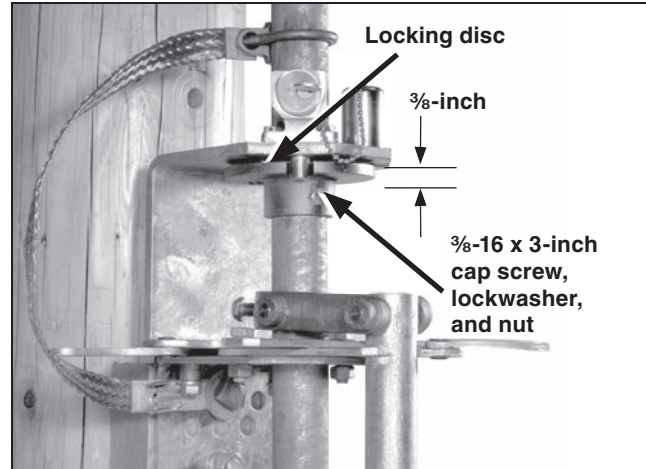

Figure 26. Interphase pipe connecting the switch poles and outboard bearing.
STEP 23. Hold the locking disc $\frac{3}{8}$ -inch (10 mm) below the interlock bracket and drill $\frac{7}{16}$ -inch diameter holes through the vertical operating-pipe section using the holes in the locking disc collar as pilots. Attach the locking disc to the pipe using the $\frac{3}{8}$ -16 x 3-inch cap screw, lockwasher, and nut furnished. See Figure 26.